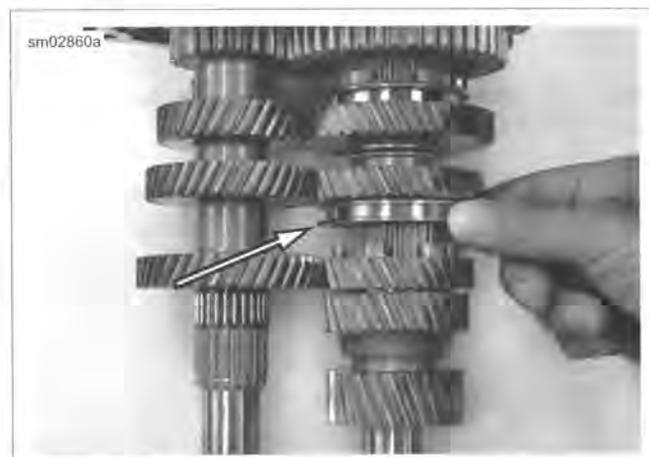

Figure 6-28. Raise and Hold Dog Ring
- See Figure 6-28. Hold dog ring so that it is engaged with countershaft 3rd gear during the press procedure. Otherwise bearing and gear damage is possible.